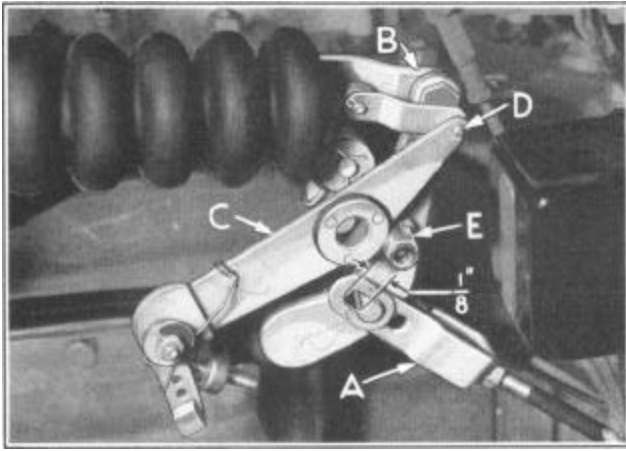

Figure 3
With engine not running and the power cylinder piston in its extreme rearward position, remove valve lever (C) (Figure 3).